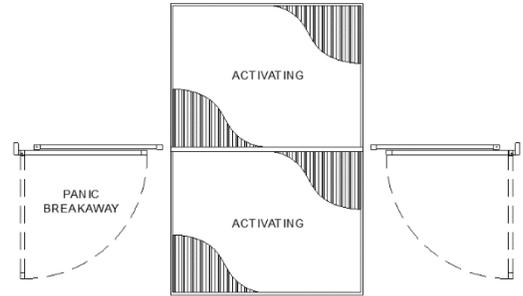

FIGURE 5
5. **Emergency Breakout** - Test by manually pushing door at lock area in direction of emergency exit. Release door. The door should either stop operation or spring to closed position. Make sure door panel or panels are properly re-latched. If the door is equipped with breakaway sidelites, door operation should stop when sidelites are broken out. (See Figure 5).